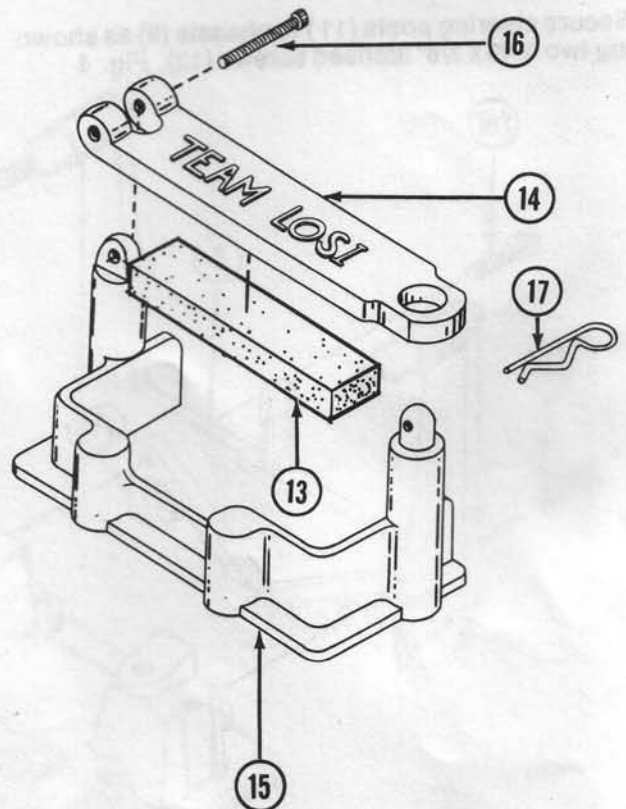

FIG. 6
7. Peel off backing from battery box foam (13) and apply to recess in bottom of battery box lid (14). Fig. 6.
8. Secure battery box lid (14) to battery box (15) using a 4-40 x 1/2" socket head screw (16) as shown. Fig. 6.
* NOTE: Thread screw (16) in through chamfered end of hole in battery box lid (14).
9. Secure lid (14) with body clip (17). Fig. 6.